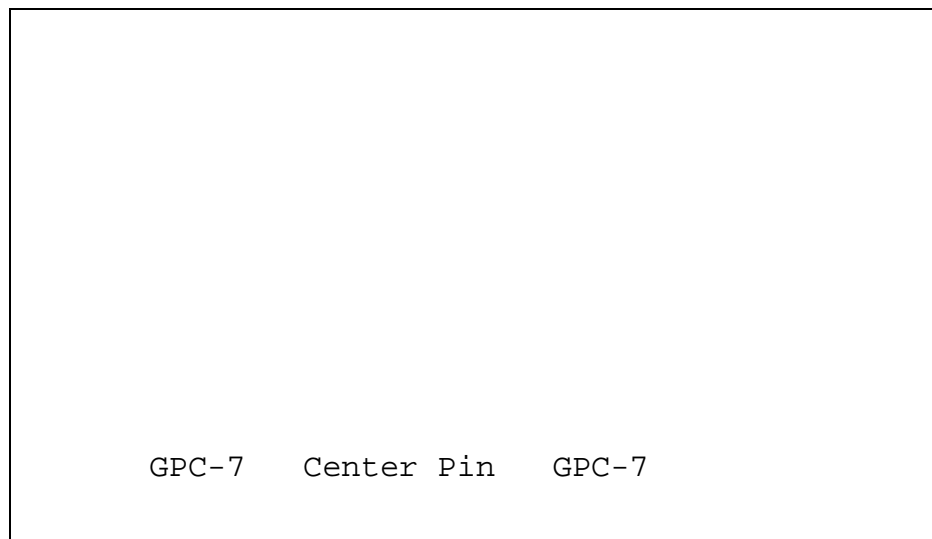

Figure 3: Final assembly of Delay Line
4. Approach the right GPC-7 connector under angle and make sure the mobile center pin is well placed in the central conductor of the right GPC-7 connector (Figure 3).